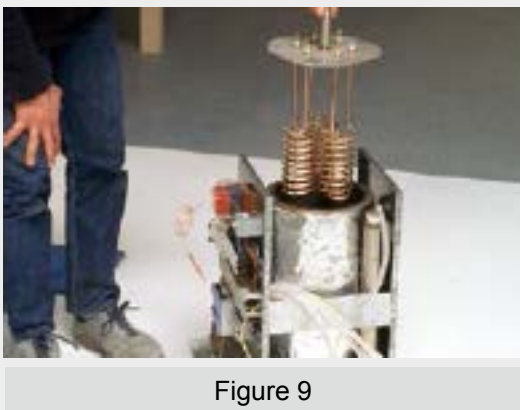

Figure 9
4. Remove the cover from the generator as shown in Figure 9.